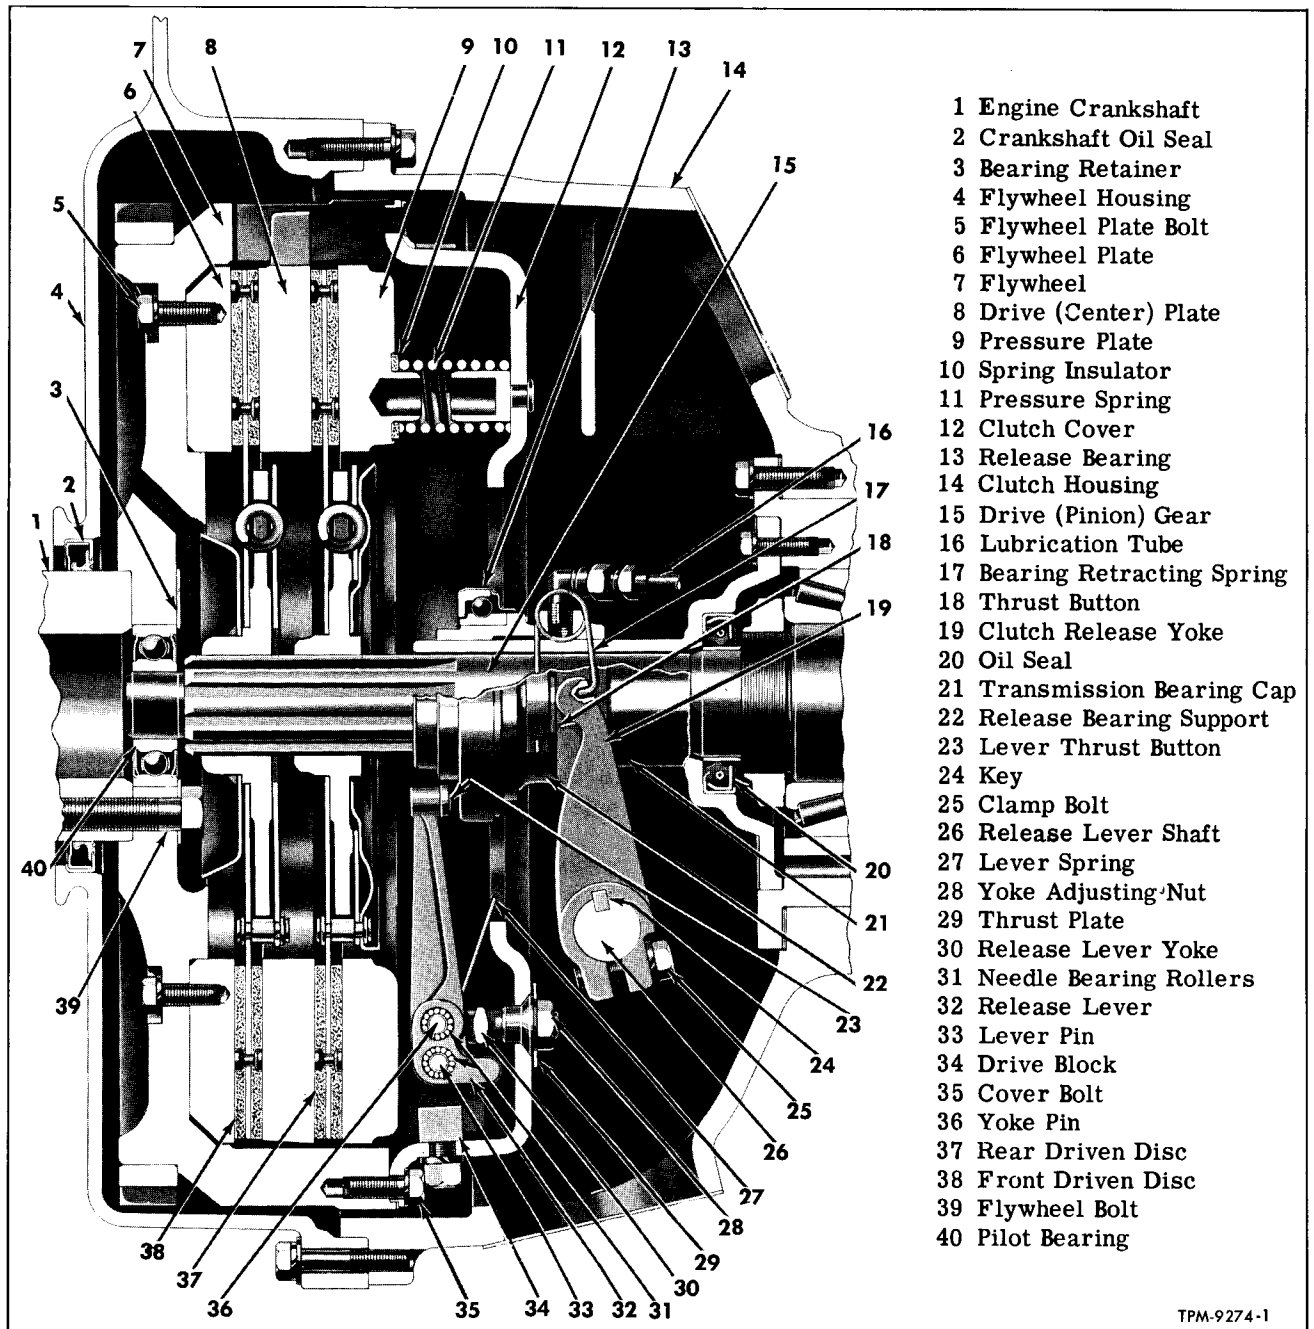

Figure 2—Cross Section of Dry Type Clutch Installed
Initial movement of clutch pedal exerts pull on rod (2), and since there is no resistance to initial movement of lever (20), the lever moves until release bearing contacts clutch release lever buttons (23, fig. 2).